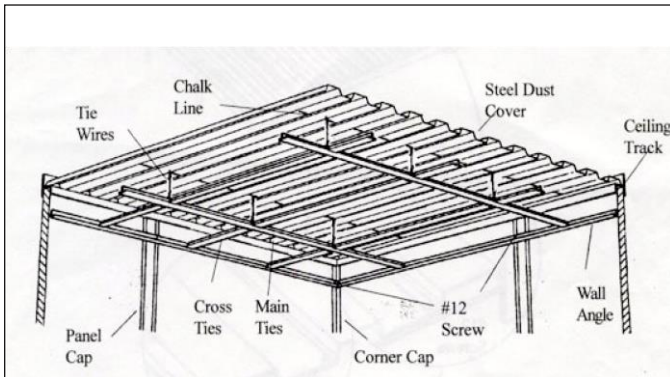

Figure 15
Step 2 The first step is to install the Drop Ceiling Wall Angles (provided in 12’ lengths). The Wall Angle must be cut to fit the walls of the office. Then, install the Wall Angle around the entire inside perimeter of the office; approximately 6” below the top of the wall panels. Secure at each Intermediate H-Post and Corner Post with the screws provided. (see **Figure 15**).